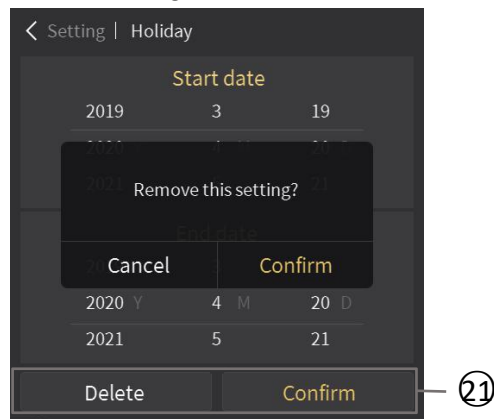

Fig.2.11.14
⑱ Add holidays by touching the icon;
Enter the interface as shown in Fig.2.11.14 by touching icon⑱. **Timing is off during holidays.**
⑲ Enter the holiday time setting by touching the icon ;